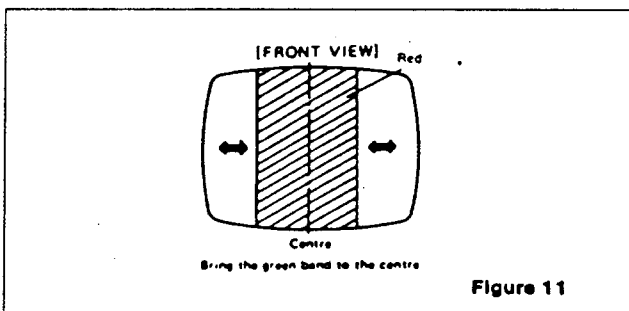

Figure 11
7. Spread the tabs apart as little as necessary and rotate both rings together to center the red band horizontally on the face of the CRT (approximate). (See Fig. 11)